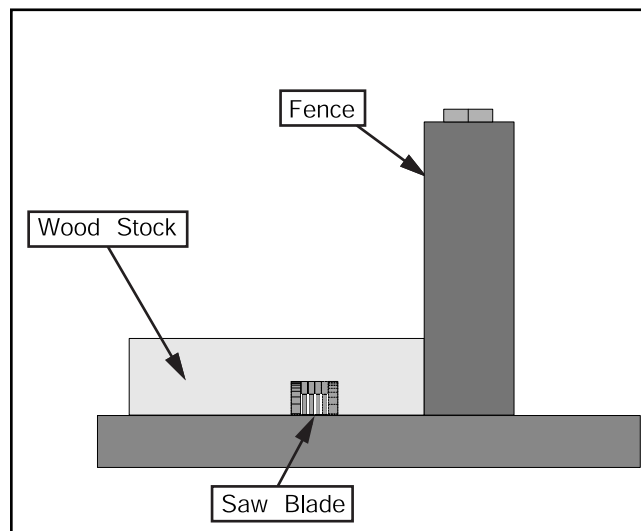

Figure 32. Single-blade dado cut.
6. If dadoing along the long length of your workpiece, adjust the distance between the fence and the inside edge of the blade to suit your needs as shown in Figure 32.